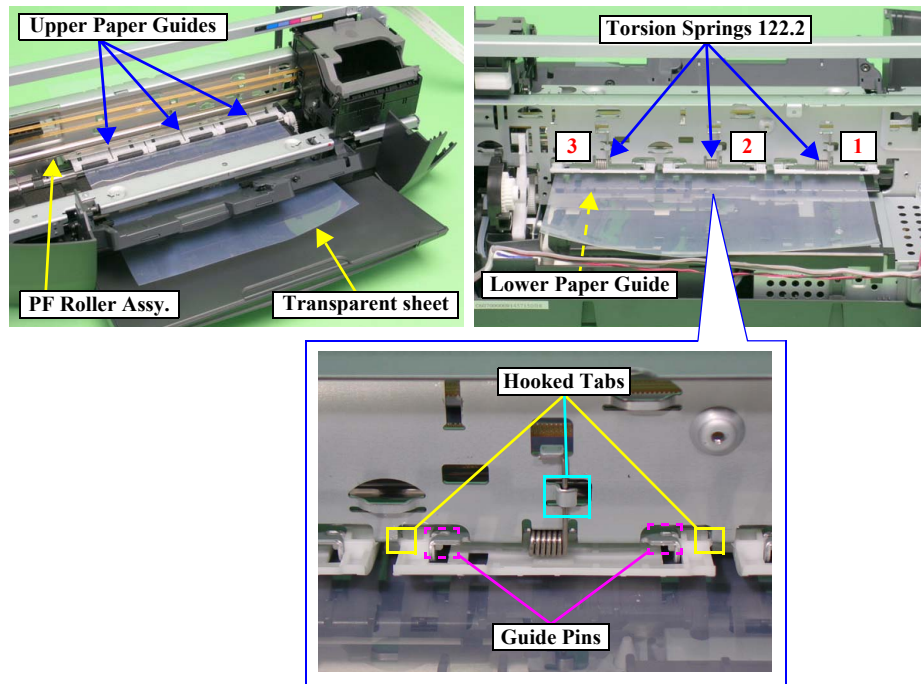

Figure 2-53. Removing the Upper Paper Guide
■ Attach the Upper Paper Guide in the order shown in Figure 2-53.
□ Illustration (1)